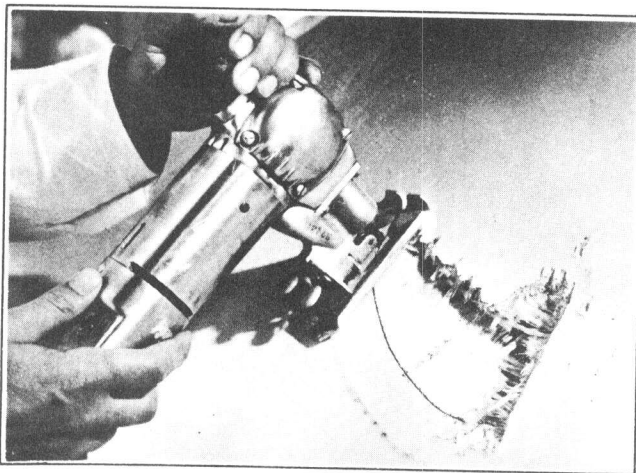

Figure 4-7. Sawing Out Damaged Area
2. Prepare injured area by cutting back fractured material to the sound part of the material. A key-hole or electric saber saw can be used to cut out the ragged edges. See Figure 4-7.